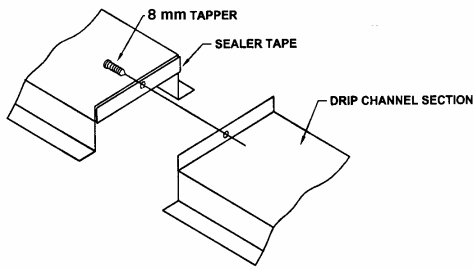

Figure 7 - Drip Channel Assembly
10. Fasten the drip channel sections together, end to end, by driving a self-tapping 6 mm screw through the section end with the larger hole into the mating end with the smaller hole. Stainless steel units will use 6 mm stainless steel nuts, bolts, and washers. (See Figure 7.)